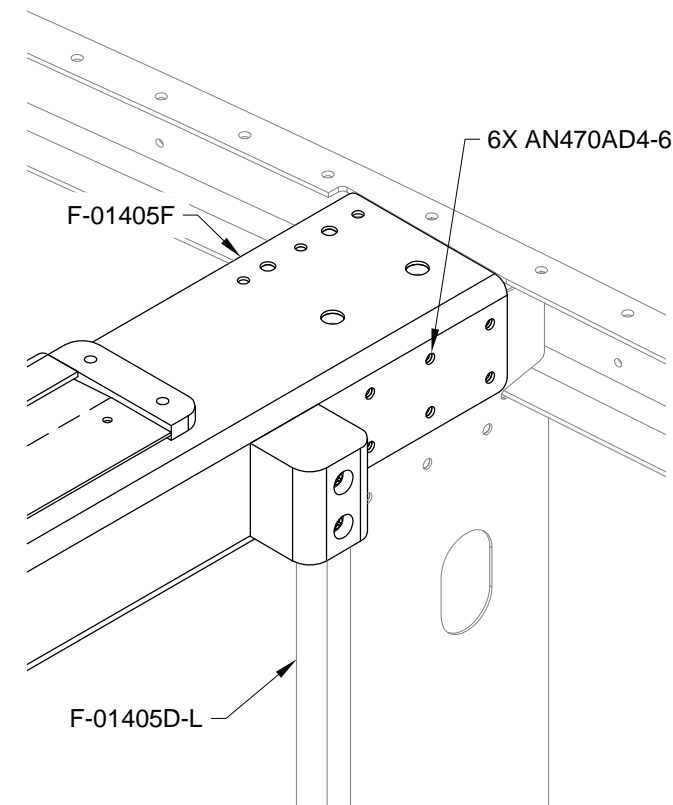

FIGURE 3: BRACE INSTALLATION
Step 6: Cleco and rivet the F-01405F Brace to the F-01405D-L & -R Bulkhead Side Channels as shown in Figure 3.